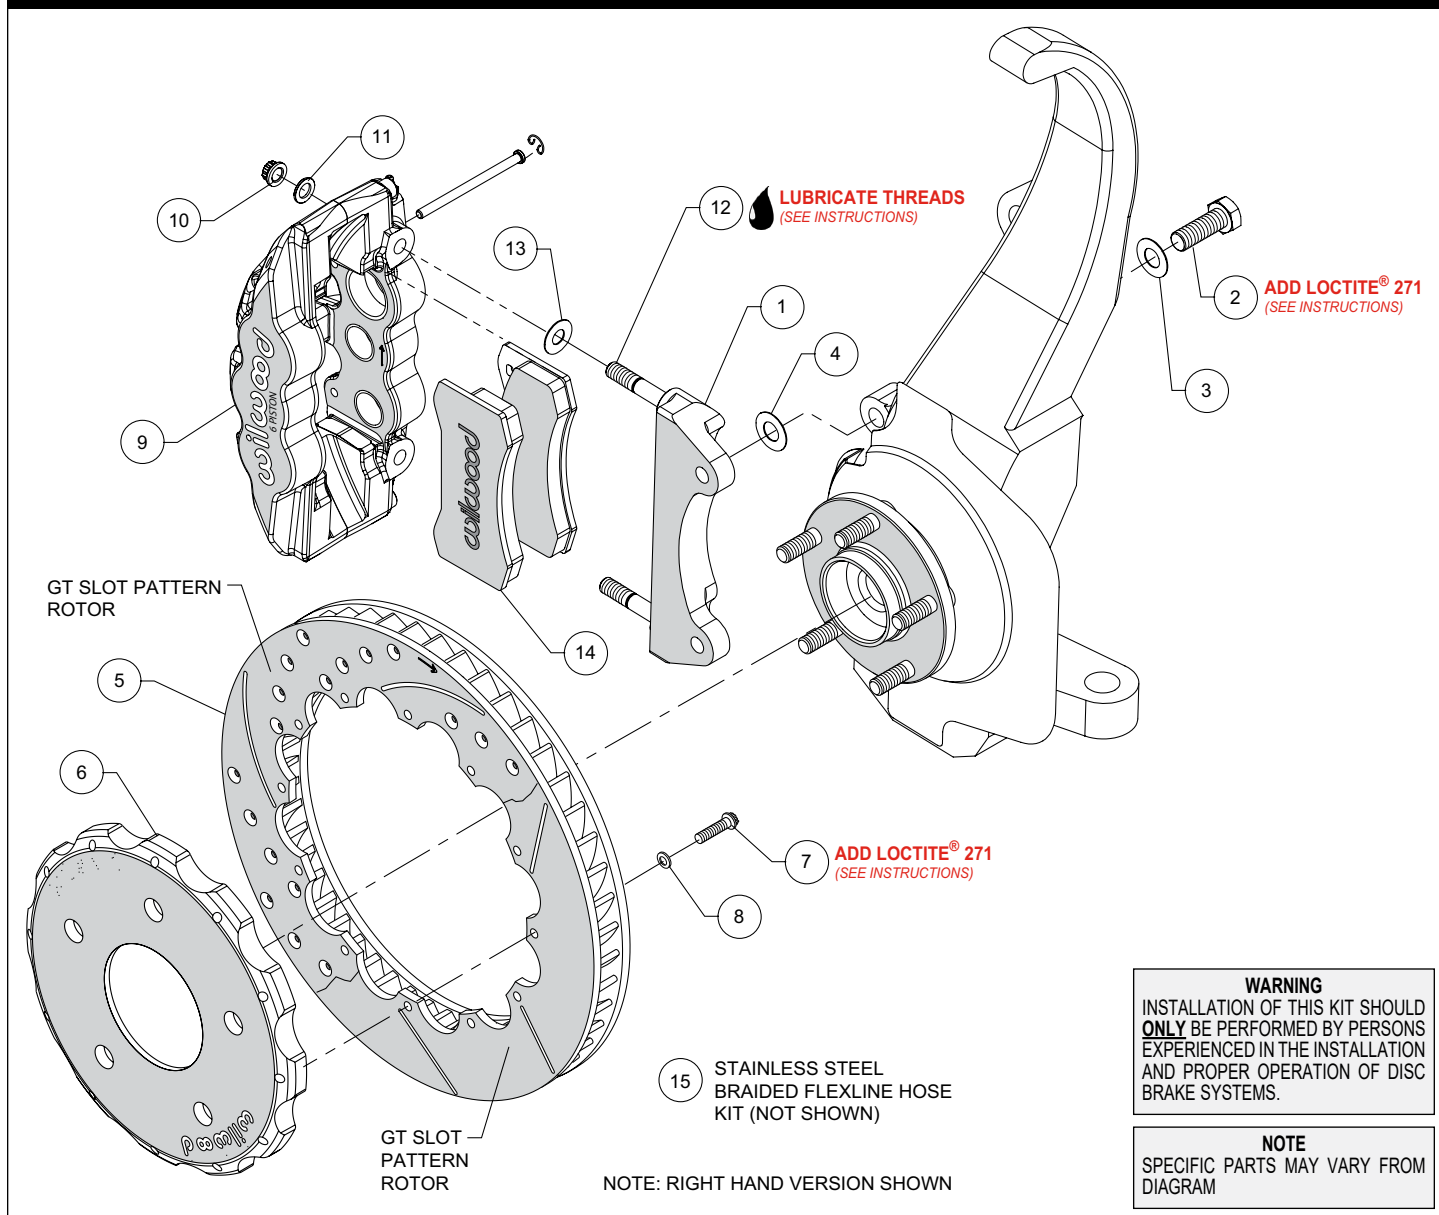
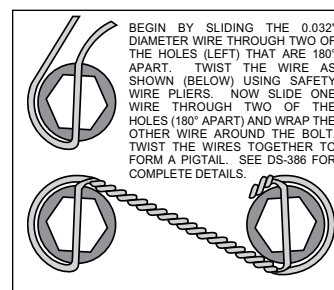

Figure 1. Typical Installation Configuration
Figure 4. Safety Wire Diagram
Assembly Instructions (numbers in parenthesis refer to the parts list and Figure 1 on the preceding pages):
- The caliper mount bracket (1) should initially be installed with clean, dry threads on the mounting bolts. Orient the bracket as shown in Figure 1 and Photo 1, and install using bolts (2) and washers (3). Initially place one .029 thick shim (4) on each bolt between the bracket and upright, Figure 1. Temporarily tighten the mounting bolts. **NOTE:** The bracket must fit squarely against the mounting points on the upright. Inspect for interference from casting irregularities, machining ridges, burrs, etc. Later, after the caliper alignment has been checked, the mount bolts will be secured using red *Loctite*® 271.
- Orient the rotor (5) and the hat (6) as shown in Figure 1 and Photo 2. Attach rotor to hat using bolts (7) and washers (8). Apply red *Loctite*® 271 to the bolt threads and torque to 155 in-lb using a criss-cross pattern. For an added measure of security, the bolts may be safety wired using standard 0.032 inch diameter stainless steel safety wire as shown in Figure 4. Please refer to Wilwood's data sheet DS-386 (available at www.wilwood.com/Pdf/DataSheets/ds386.pdf) for complete safety wire installation instructions.
- NOTE:** This kit contains distinct right and left hand calipers that must be mounted in a specific direction, as described below. Lubricate the caliper mounting studs (12) with lightweight oil. Initially place one .030" thick shim (13) on each stud between the caliper and the bracket, as shown in Figure 1 and Photo 3. Mount the caliper (9) onto the bracket (1) using lock nuts (10) and washers (11), Figure 1. Ensure that the caliper is mounted so the largest pistons are at the rotor exit end of the caliper, in relation to the direction of rotor rotation. Temporarily tighten the lock nuts and view the rotor through the top opening of the caliper. The rotor should be centered in the caliper, Photo 4. If not, adjust by adding or subtracting shims (4) between the bracket and the upright. Always use the same amount of shims on each of the two mounting bolts. Once the caliper alignment is correct, remove the bracket mounting bolts (2) one at a time, apply red *Loctite*® 271 to the threads, and torque to 77 ft-lbs.
- Remove the two pad retaining pins from the caliper (9) by carefully popping out the pin retaining clips and sliding out the pins. Insert the brake pads (14) into the caliper from the bottom, Figure 1 and Photo 5. With the friction material facing the rotor, secure the brake pads in place with the pad retaining pins and clips, Photo 6. Reinstall the caliper onto the caliper mounting bracket and temporarily tighten the lock nuts (10). Check that the top of the brake pad is flush with the outside diameter of the rotor, Photo 7. If not, adjust by adding or subtracting shims (13) between the caliper and the bracket. After the caliper pad height is set, torque the caliper lock nuts (10) to 47 ft-lb.